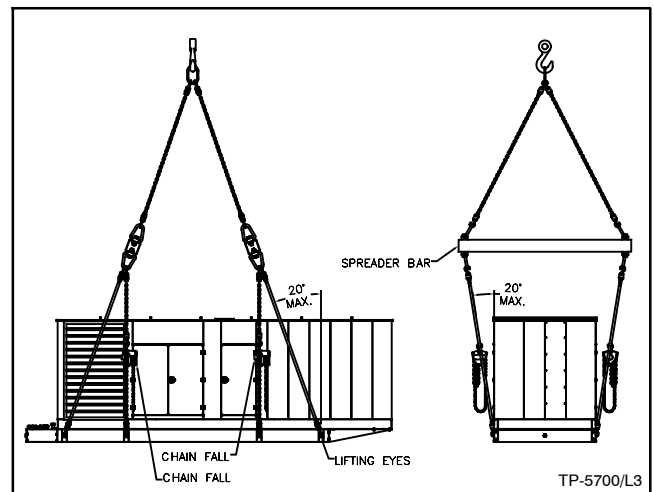

Figure 2-13 Eight Eyes, Two Spreader Bars, and Four Chain Falls Lifting Method
Apply two spreader bars and four chain falls (Figure 2-13) for eight eye lifting.
- Install a pair of outer slings up to the maximum angle as shown in Figure 2-13.